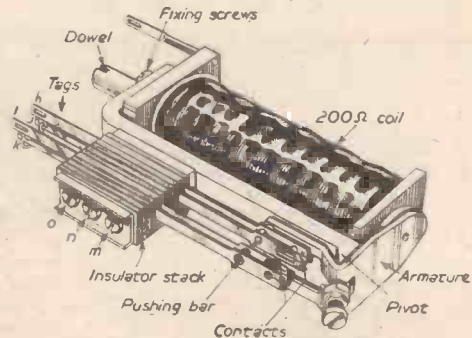

Fig. 19.—The modified P.O. relay.
The prototypes use relays purchased from Messrs. Annakin. See Fig. 19. It is not known of what metal the contacts are made, but if heavy switching is required, they should be of nickel silver, when currents of over 5 amps. may be drawn. Normally, however, about 1 amp. is reasonable.
1. Refer to Fig. 19 and remove the three retaining screws m, n and o.